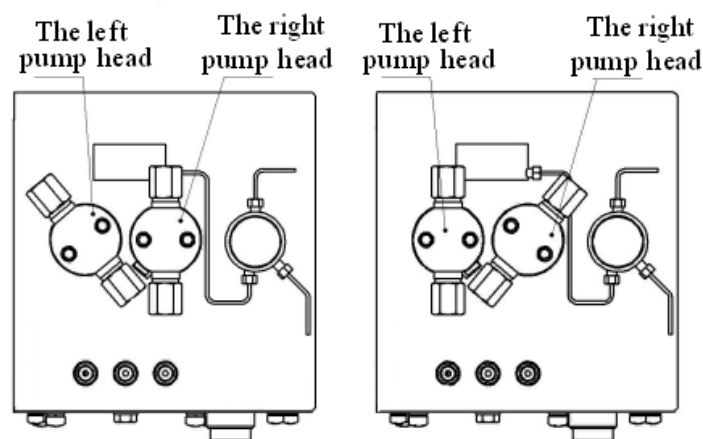

Figure 4-6: Pump head disassembly
- 4) Turn the belt to make the CAM reach the lowest point, push the pump head with force and rotate 40-45 degrees (the left pump head counterclockwise, the right pump head clockwise, shown in figure 4-6), and the pump head component can be discharged.